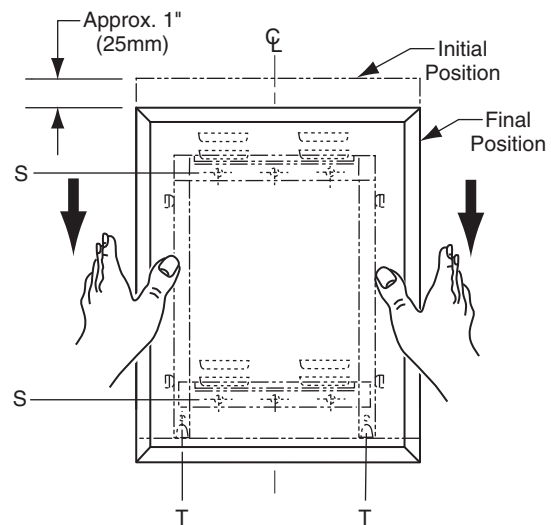

Figure: 4
**Screw Locking Design** — Lock mirror to wall hanger by tightening Phillips-head locking screws that are concealed in the bottom of frame at points indicated by a T. Mirror may be unlocked from wall hanger by loosening locking screws and lifting mirror off of concealed wall hanger (see figure 4).